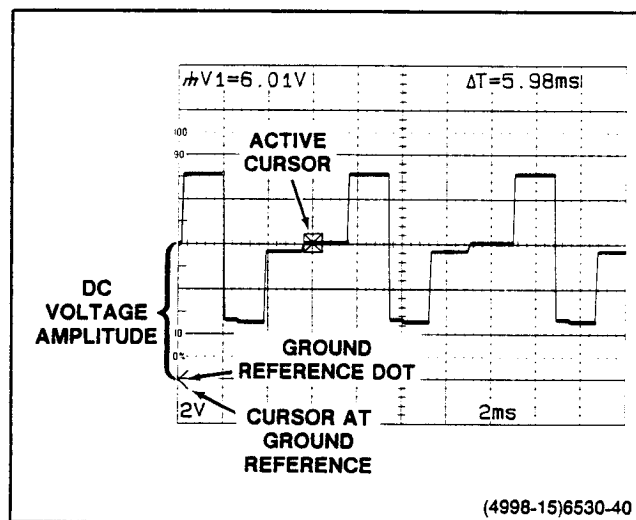

Figure 6-13. Ground referenced dc voltage, cursor method.
8. Use the CURSORS control to move the active cursor to the point of interest on the waveform (see Figure 6-13).